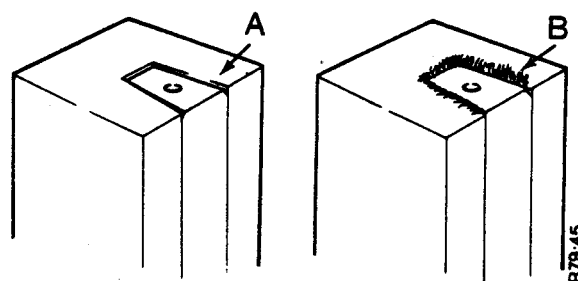

FIGURE 55 CUTTING THE PACKING
6. Remove any loose fibres with a very sharp knife. See Figure 55.